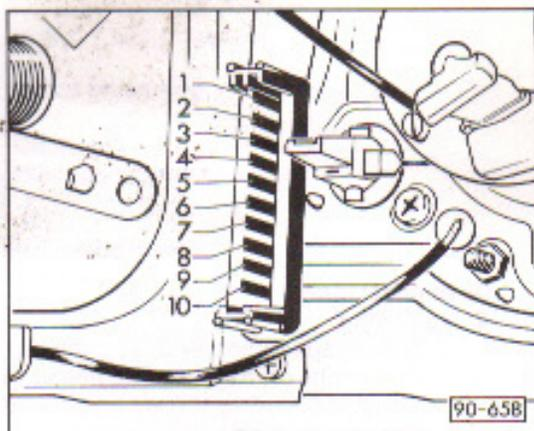

Fig. 1 Wiring of contacts on multi-pin connector
- Wiring of connections on multi-pin connector – Fig. 1